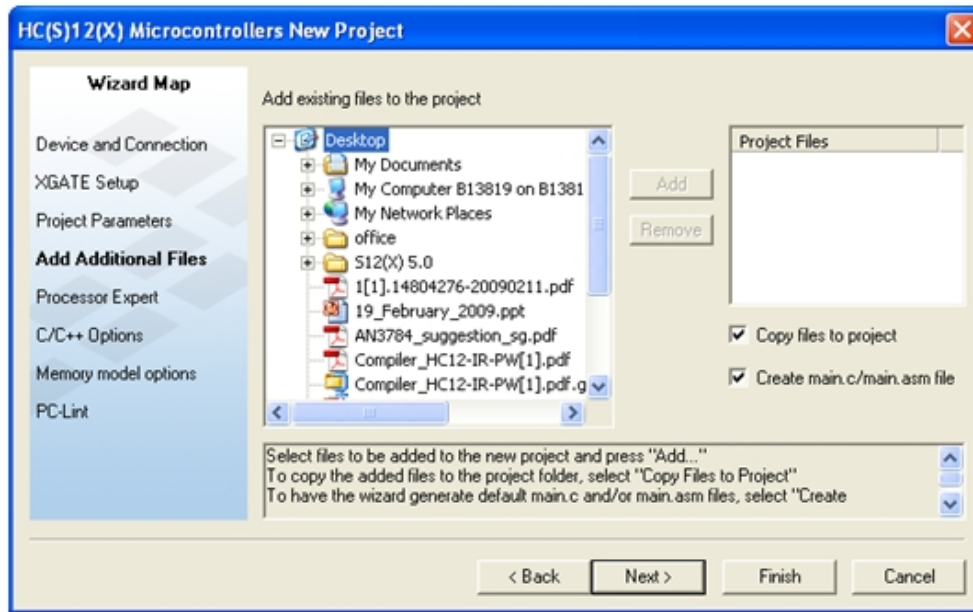

Figure 3-5 Add Additional Files Screen
8. Click **“Next”** to continue. The **Add Additional Files** screen appears. As shown as **Figure 3-5**.
9. Select files to be added to the new project and click **Add** button. You can also ignore this step and click **“Next”** to continue. As shown as **Figure 3-5**.